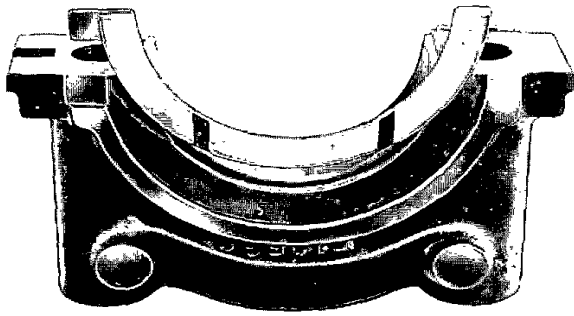

Fig. 90. Fitting the thrust washers
4. Fit the thrust washers for the centre main bearing (pilot bearing). Locating slots are provided so that the washers can only be fitted in their correct position (fig. 90).